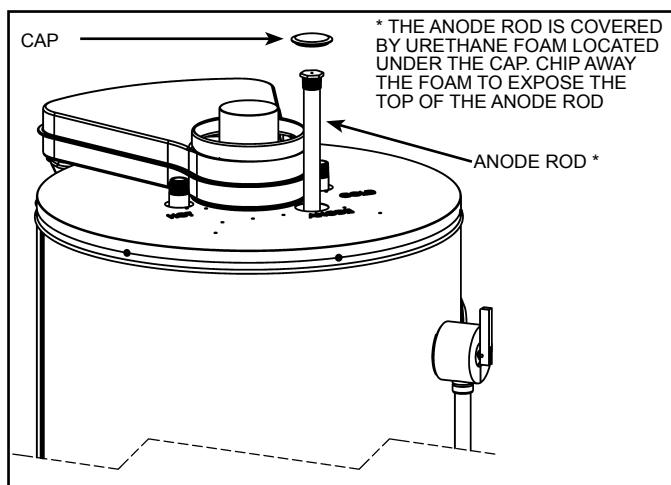
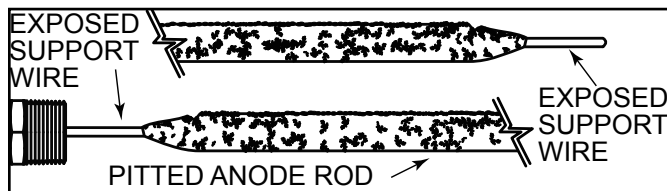

Figure 41
Figure 42
Artificially softened water is exceedingly corrosive because the process substitutes sodium ions for magnesium and calcium ions. The use of a water softener may decrease the life of the water heater tank. The anode rod (see Figure 41) should be inspected after a maximum of three years and annually thereafter until the condition of the anode rod dictates its replacement (see Figure 42).
5. Remove and retain the anode cap on top of the heater and remove and retain just enough insulation so you can access to the anode head (see Figure 41). Keep in a safe place for reinstallation later.
6. Remove the anode rod by using a ratchet and a 1-1/16” socket turning counter-clockwise (see Figure 41).
2. Place the anode rod in the spud (top of the tank) (see Figure 41) and turn clockwise until the threads are hand tight. Using a ratchet and 1-1/16” socket tighten down water tight.